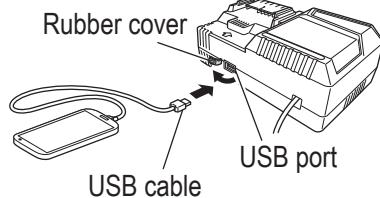

Fig. 40
2. Connect the USB cable. (**Fig. 40**)